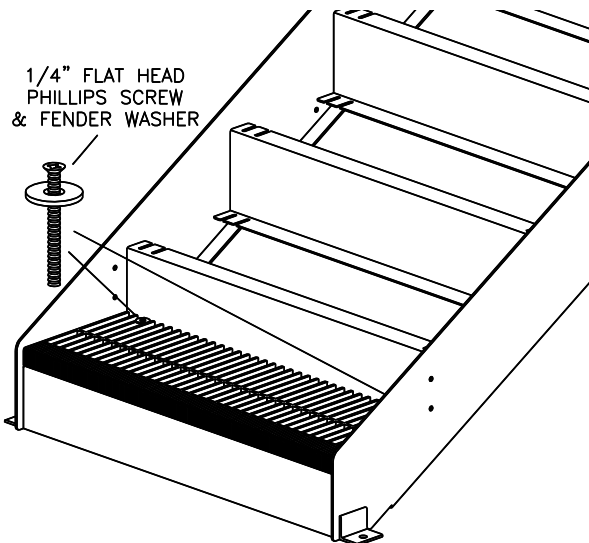

Fig 23 – Stair Treads
- 45) Starting at the bottom of the stairs, position and fasten each tread using two (2) 1/4" flat head phillips screws and two (2) fender washers on top of each tread at the back of the tread, **Fig 23**.